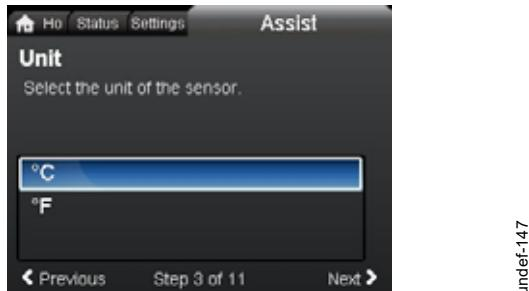

Fig. 66 Step-by-step guide, "Heat energy monitor": Unit display
2. Follow the step-by-step guide to complete the sensor-input setup. Start with the unit display, see fig. 66, and end with the summary display.